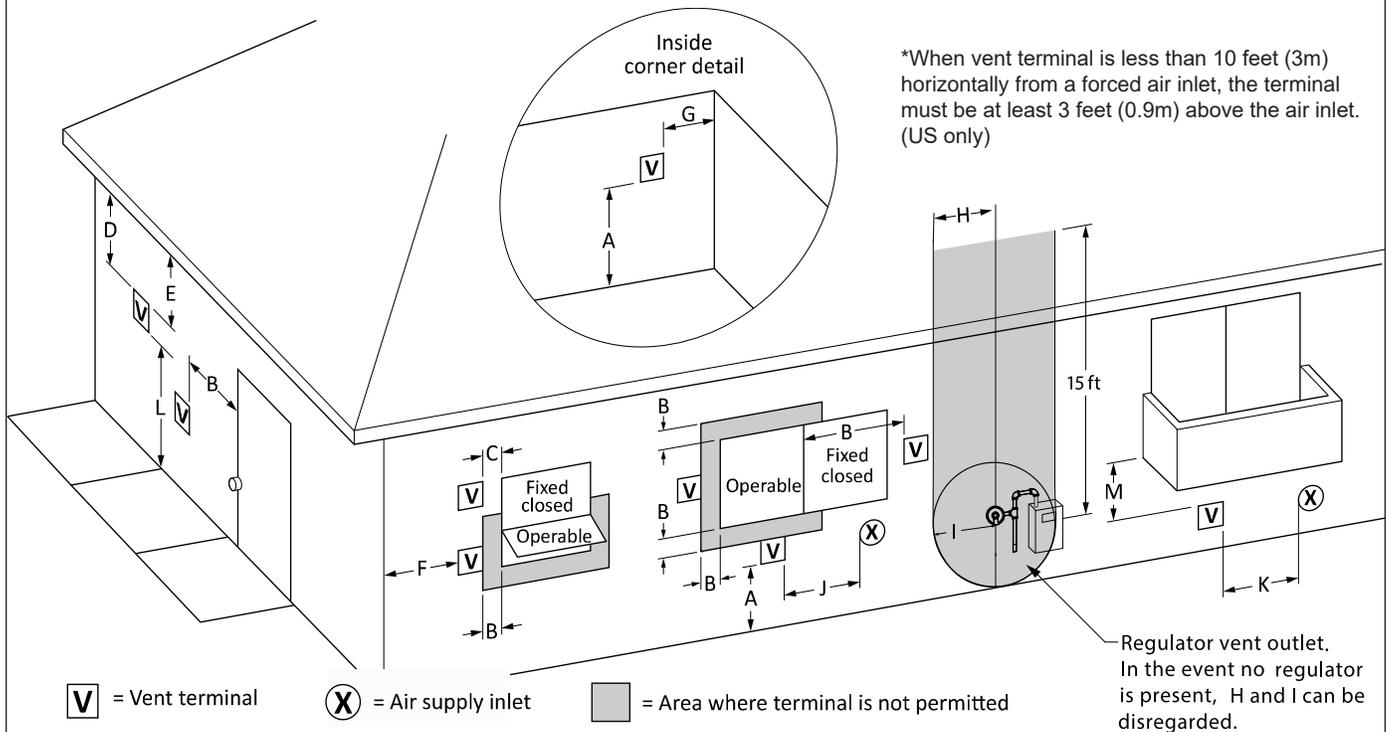

Figure 19. Combustion Air and Vent Through Side Wall
1. Figure 19 shows the requirements for mechanical vent terminal clearances for the U.S. and Canada. The outdoor models must be installed at least 10 ft (the vent pipe) from any door or window that can be opened. The exhaust vent shall not be under any overhang or roof. Use only the vent components included with the boiler.
The side wall combustion air terminal, or concentric terminal must be used when the heater takes air from a side wall. (See page 23) Contact manufacturer for AL29-4C termination fittings. Consider the following when installing the terminal. (See Figure 19 through Figure 20.)